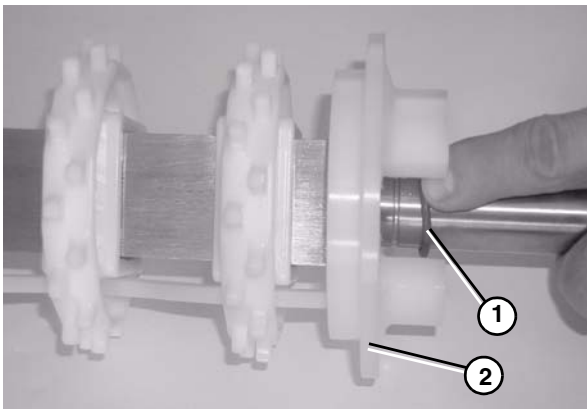

Figure 69
5. Install a flanged puck (**Figure 69, item 2**) onto spindle shaft. Install O-ring (**Figure 69, item 1**) onto spindle in groove provided.